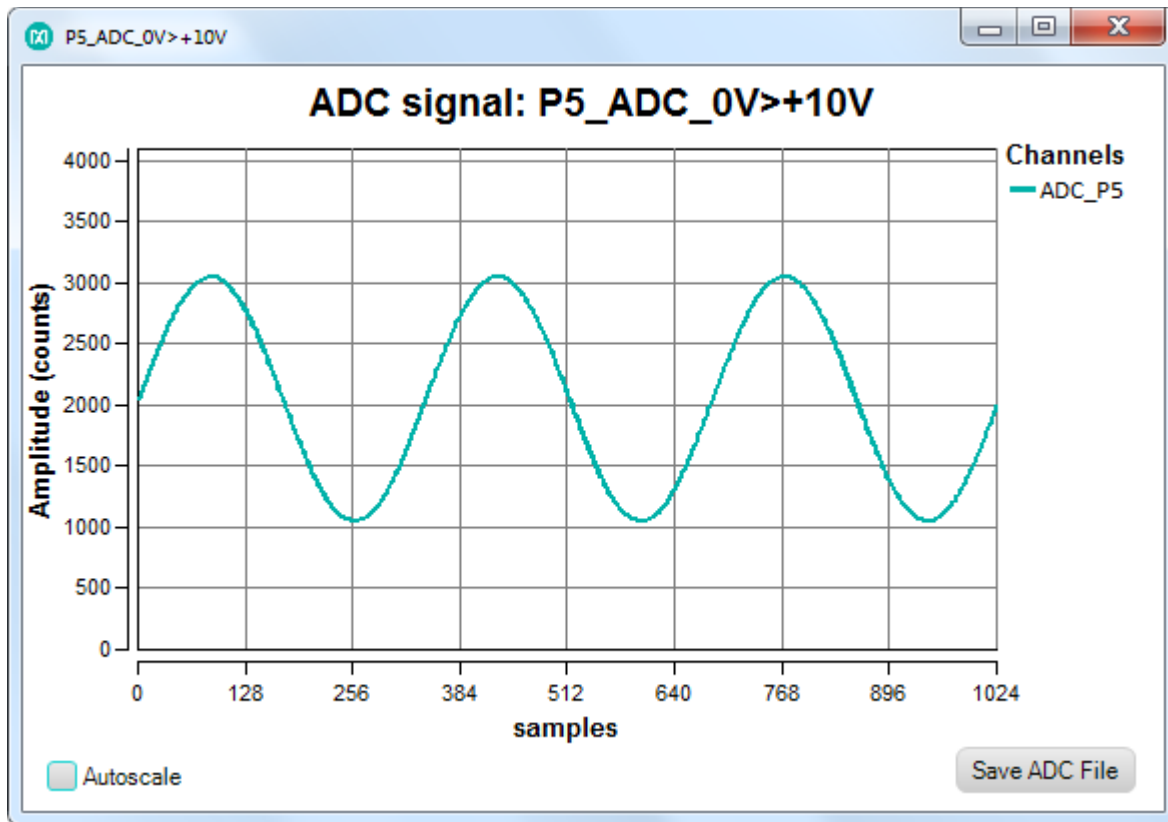

Figure 27. Sine wave with 170 μ s sample delay.
5. After adding 170 μ s sample delay, the ADC shows the same waveform as we apply to the DAC. See **Figure 27**.